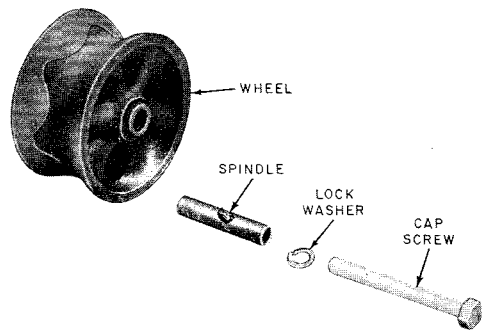

Fig. 10—Plain Wheel
7.03 To replace the plain wheel, remove the capscrew and lockwasher and slide the wheel out of the wheel housing. Remove the spindle from the old wheel (Fig. 10). If the spindle is in good condition and free from excessive play when inserted in the new wheel it may be reused; otherwise it should be replaced. Insert the new wheel in the housing and secure it with the capscrew and lockwasher. Lubricate the wheel bearing before use.